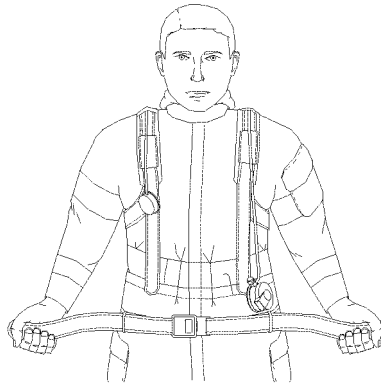

Figure 077-3-24. Tightening Waist Adjustment Straps for Over-the-Head Method
- (6) Simultaneously pull waist adjustment straps forward to tighten as shown in Figure 077-3-24.